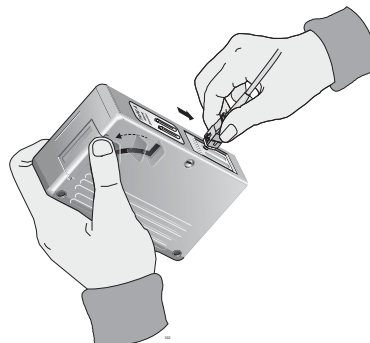

Figure 54. Rubbing the Ferrule Tip on the Cleaning Surface
1. With one hand, hold the cartridge cleaner and push the lever on the cleaning cartridge in the direction of the arrow to expose the cleaning surface, as shown in Figure 54.
2. Place the ferrule tip on the exposed cleaning surface and rub the ferrule in a downward direction, as shown in Figure 54.